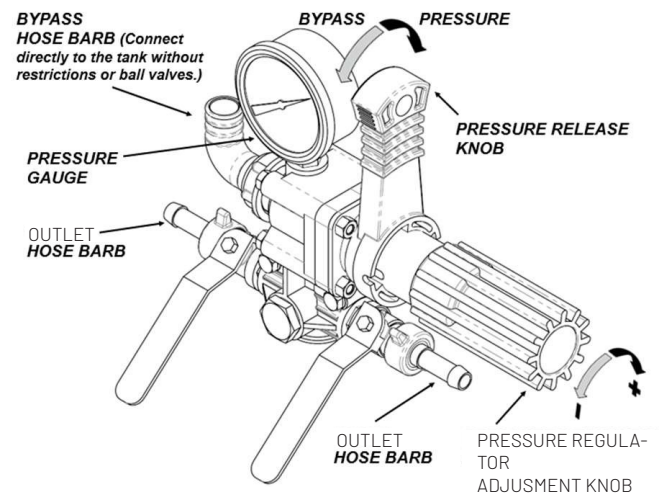

FIGURE 3
7. Adjust the pump to the desired pressure by changing the relief valve setting on the control unit, relief valve or unloader. All the outlet valve must be closed as shown in Figure 3.